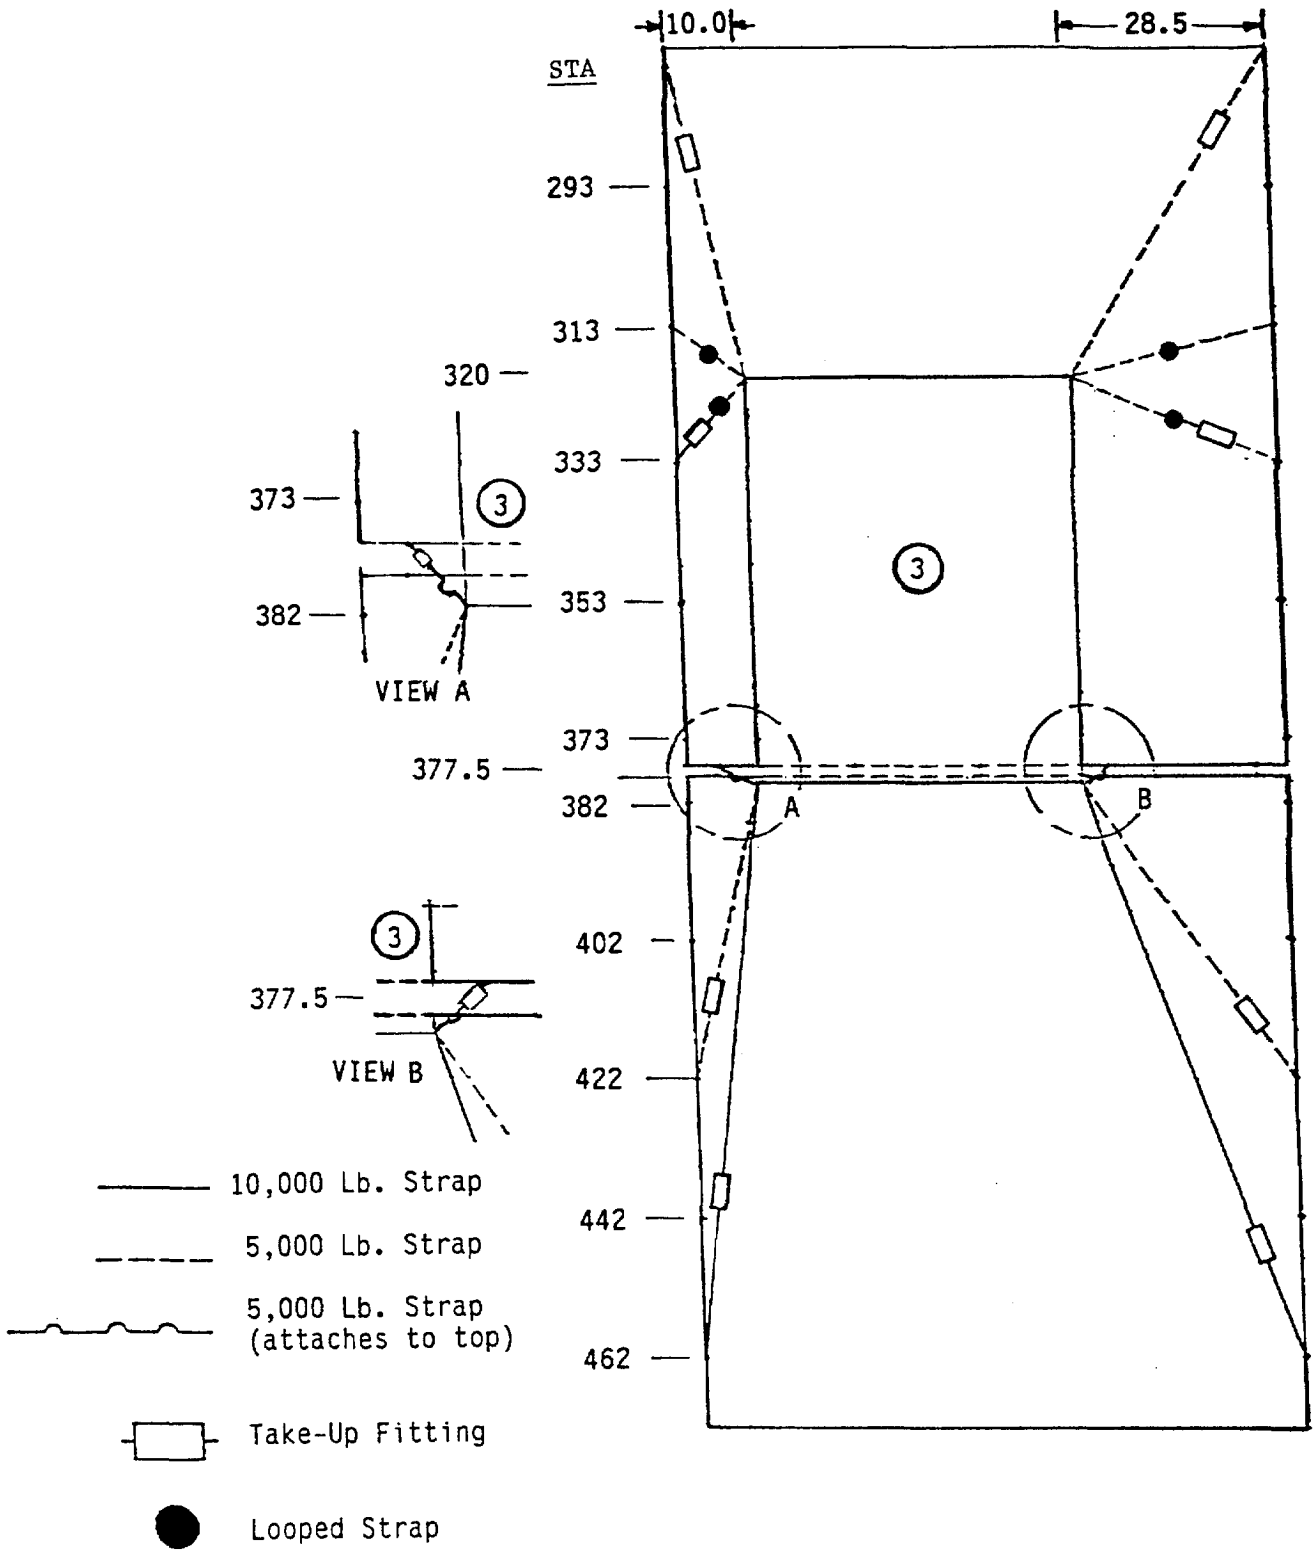

Figure 2-15. Three Tanks of Four with Pallets
- Three tanks of four w/pallets, Fig 2-15